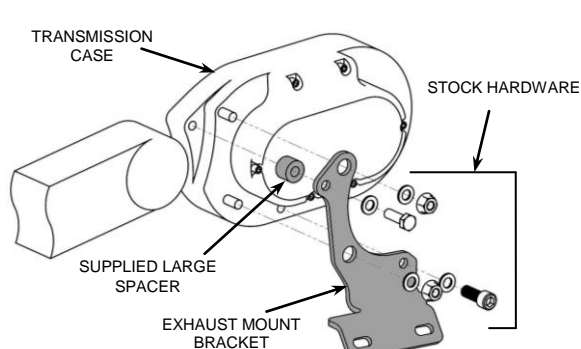
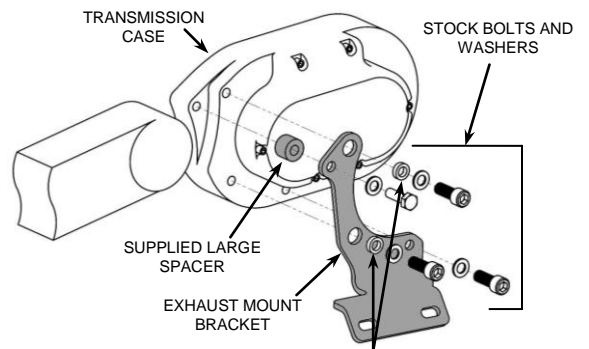

FIGURE 1
FIGURE 2
6. Install the supplied exhaust mount bracket using the stock bolts. See **FIGURE 1**. Tighten the bolts to factory specifications. If applicable, be sure to insert the large spacer between the exhaust mount and the transmission case as shown in **FIGURE 1**. For Switchback models, also insert 2 of the supplied small aluminum spacers into the large holes in the exhaust mount bracket as shown in **FIGURE 2**.